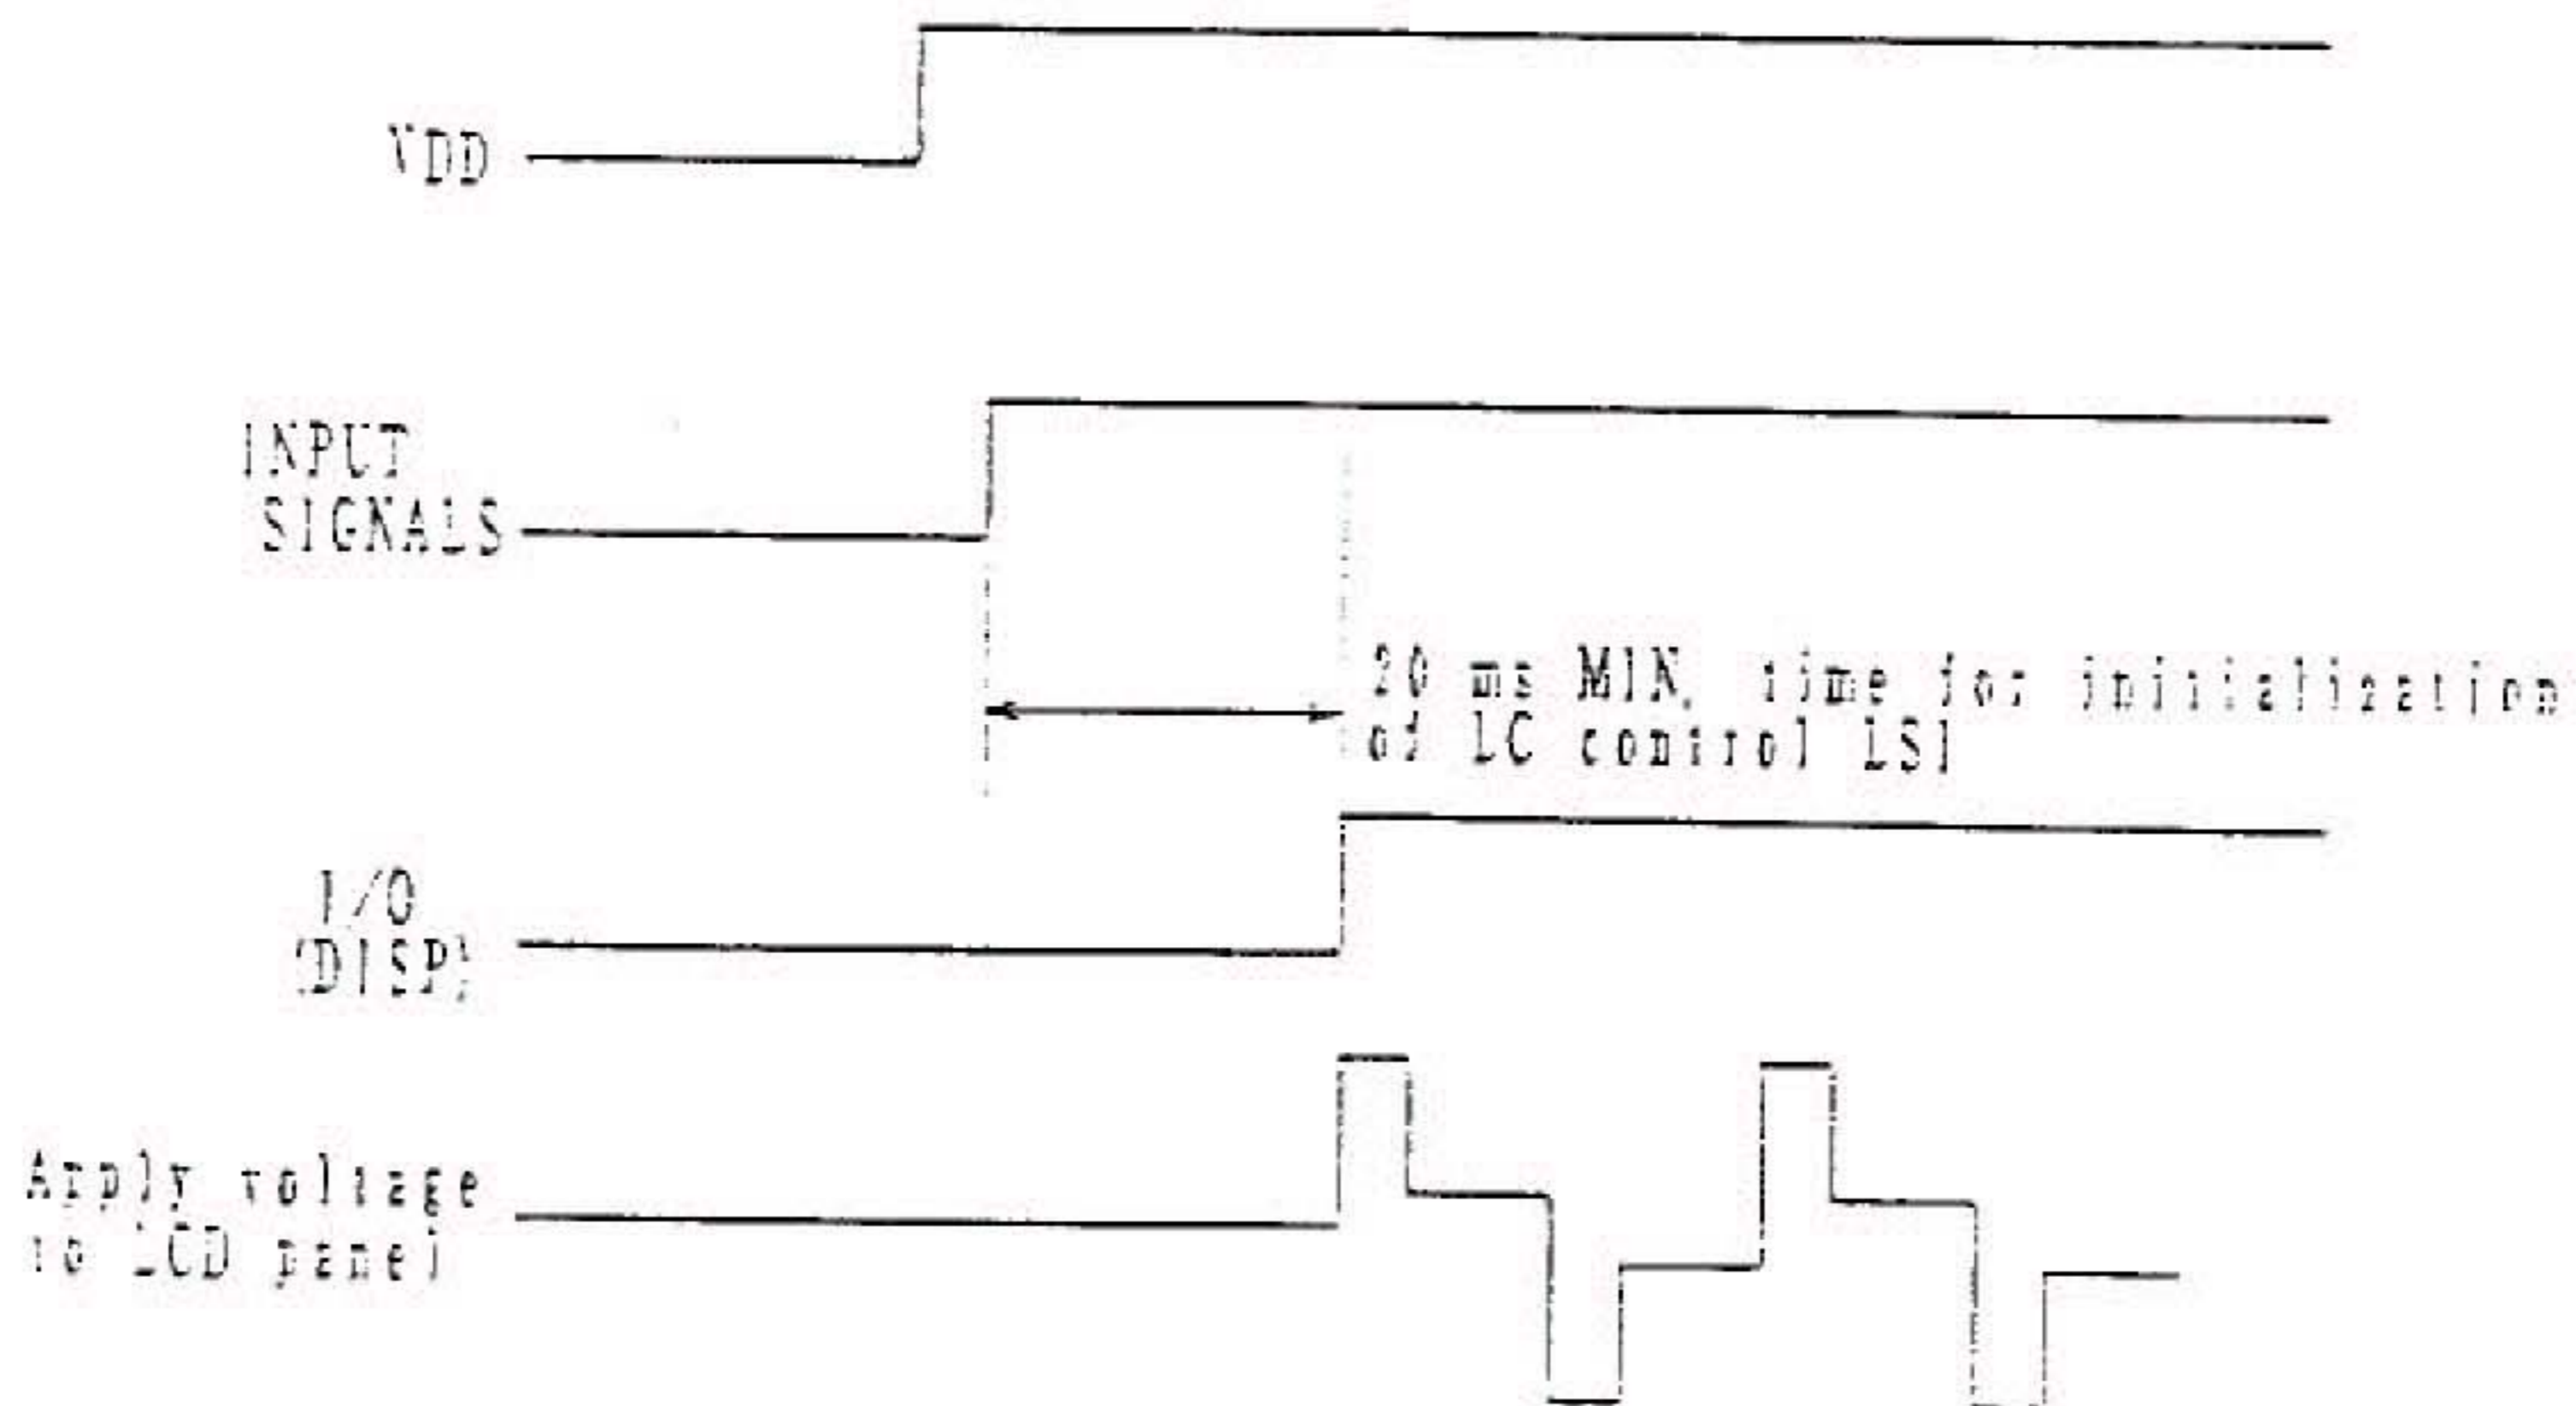

Fig. 5 Timing chart without DC apply to the LCD panel.
Connect I/O port of micro-computer in the main system with DISP and control it. Until initialization of LC control LSI is finished after power ON, signal(M) isn't generated, so that DC voltage is applied to the LCD panel. (Refer to Fig.3.) During this time, switch I/O port(DISP) to 'L' and force apply voltage to the LCD panel into 0V. After initialization of LC control LSI, switch I/O port(DISP) to 'H', so that the LCD panel is returned to the normal driving voltage. (Refer to Fig.5.)